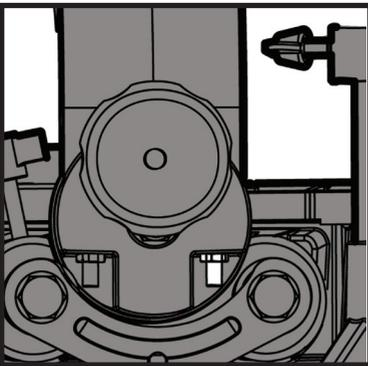

Fig 22
- Using a suitable hex key screw the 90° adjustment screw clockwise or counter clockwise until correct alignment has been achieved. (Fig 22)